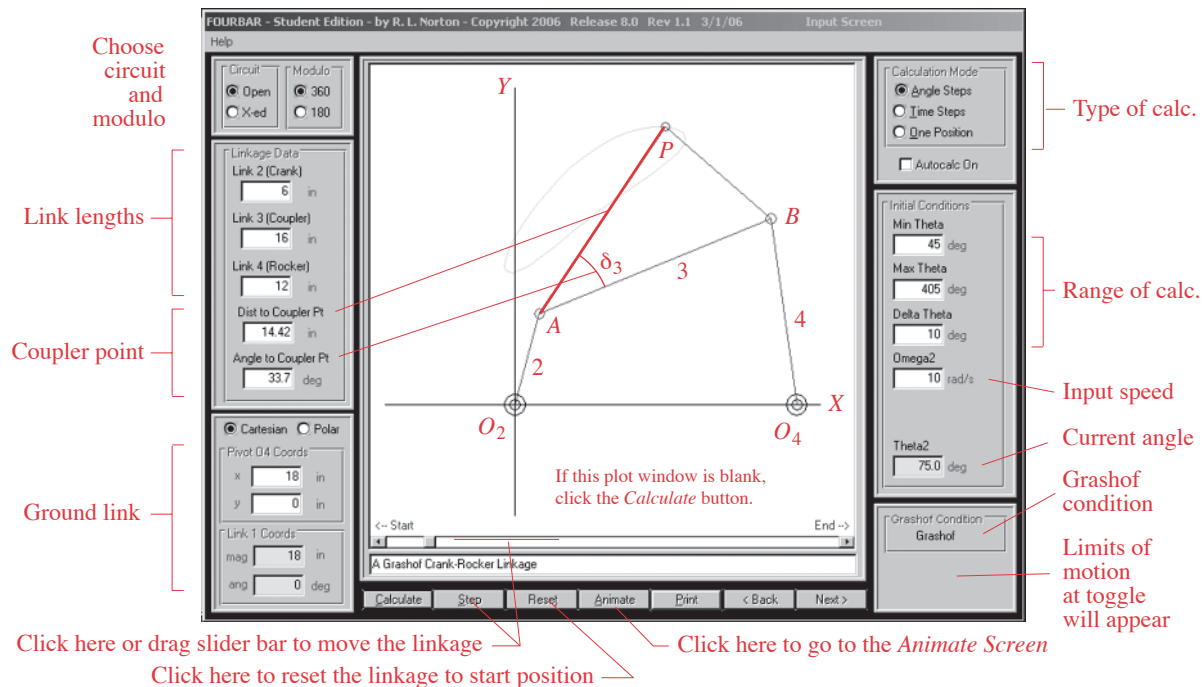

FIGURE A-6
**GLOBAL COORDINATES** The *Global* choice in the *Coordinate System* panel refers all angles to the  $XY$  axes of Figure A-6 (p. 781). For polar plots the vectors shown with the *Global* choice actually are drawn in a local, nonrotating coordinate system (LNCS)
The global  $X$  axis is horizontal, shown in the figure along link 1, defined by the instant centers  $I_{1,2}$  and  $I_{1,4}$  which are also labeled, respectively,  $O_2$  and  $O_4$  in the figure. Instant center  $I_{1,2}$ , the driver crank pivot, is the origin of the global coordinate system. You can define the angle of link 1 with respect to the global  $X$  axis with polar or cartesian coordinates for the location of pivot  $O_4$  as shown in Figure A-6.
Basic data for a linkage design is defined on the *Input* screen shown in Figure A-6, which is activated by selecting the *Input* button on the *Home* screen. When you open this screen for the first time, it will have default data for all parameters. The linkage geometry is defined in the *Linkage Data* panel on the left side of the screen. You may change these by typing over the data in the yellow text boxes.
The open or crossed circuit of the linkage is selected in a panel at the upper left of the screen in Figure A-6. Select the type of calculation desired, one of *Angle Steps*, *Time Steps*, or *One Position* from the *Calculation Mode* in the upper-right panel. The start, finish, and delta step information is different for each of these calculation methods, and the input text box labels in the *Initial Conditions* panel will change based on your choice. Type the desired initial, delta, and final conditions as desired.
Basic data for the fivebar linkage is defined on the *Input* screen which is similar to that for FOURBAR shown in Figure A-6 (p. 781). The *Input* screen is activated by selecting the *Input* button on the *Home* screen. When you open this screen for the first time, it will have default data for all link parameters. You may change any of these by typing over the data in the yellow text boxes.